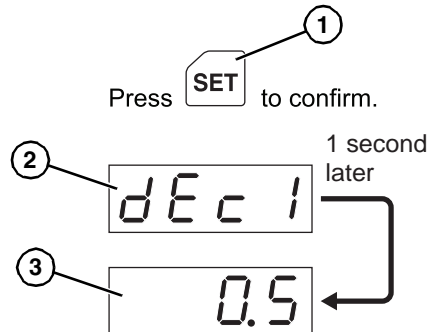

Figure 30
7. After the acceleration time has been changed, press SET (**Figure 30, item 1**) to confirm the new setting. The display will blink and show “dEc1” (**Figure 30, item 2**), after which the deceleration time (**Figure 30, item 3**) will be displayed.